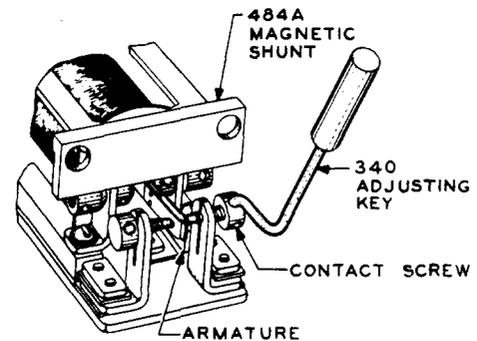

Fig. 8 – Method of Adjusting for Total Contact Travel — 215-Type Relay
(1) This method of adjustment makes use of a magnetic shunt which is placed on the relay during contact screw adjustment so as to free the armature from the influence of the permanent magnetic field.
(2) The procedures covered herein are, in general, for use in readjusting the contact screws after these screws have been backed off either to permit cleaning and burnishing the contacts or for any other reason. These procedures may also be applied in cases where a check of the total contact travel indicates that the contact travel requirement is not satisfactorily met. In all other cases when necessary, readjust the relay as covered in (7) through (15).
(3) Insert the relay in the connecting block of the testing equipment and place the 484A magnetic shunt across the front end of the yoke directly above the pole-piece screws as shown in Fig. 8 and 9. This should result in freeing the armature from magnetic influence sufficiently to cause it to assume a position approximately midway between the pole-piece screws provided the contact screws do not interfere. Connect battery to the contacts by means of the testing equipment. If the armature rests against either contact under this condition, back off the contact screw until it clears the armature.
(4) Adjust the total contact travel on relays used in telegraph service as outlined in Method A below. Adjust the travel on all other relays as outlined in Method B.
Method B: Turn in one contact screw with the 340 adjusting key as shown in Fig. 8 until it just touches the armature as indicated by the testing equipment and then back it off one-half the specified total contact travel. One twelfth of a turn of the contact screw corresponds to 0.002-inch contact travel. Repeat the above operation with the other contact screw.
(7) With the relay inserted in the connecting block of the testing equipment, loosen the locknuts on 215-type relays and back off the pole-piece screws as far as possible with the 340 adjusting key or the 3-inch C screwdriver. Back off the pole-piece screws on 255-type relays, with the KS-6854 screwdriver. The knurled tension nut shall be set so that the pole-piece screw may be adjusted without changing the position of the knurled tension nut. The 340 adjusting key may also be used to turn the pole-piece screw. Place the 484A magnetic shunt across the front end of the yoke directly above the pole-piece screws as shown in Fig. 8 and 9.
(8) Adjust the total contact travel on relays used in telegraph service as outlined in Method A below. Adjust the travel on all other relays as outlined in Method B.
Method B: Connect battery to the contacts of the relay with the testing equipment and advance one contact screw with the 340 adjusting key as shown in Fig. 8 until the screw just touches the armature as indicated by the testing equipment. Then back off the contact screw one half the total contact travel. One twelfth of a turn of the contact screw corresponds to 0.002-inch contact travel. Repeat this operation with the other contact screw, after which remove the magnetic shunt.
(16) The procedures covered in (17) through (21) are, in general, for use in readjusting the contact screws after these screws have been backed off either to permit cleaning and burnishing contacts or for any other reason. These procedures may also be applied in cases where a check of the total contact travel indicates that the contact travel requirement is not satisfactorily met. In all other cases readjust the relay as covered in (22) through (32).
(17) Release the armature by placing the 484A magnetic shunt on the relay as shown in Fig. 8 and 9.
(18) See that both contact screws are backed off at least one turn. Remove the 0.005-inch blade from the 74D thickness gauge nest, and place it between the front ends of the flexible contact springs.
(19) Using the 340 adjusting key, adjust one contact screw until it just touches the armature contact. This can be judged by inserting the white P-484674 card underneath the contacts, with the short sides of the card against the contact screw bracket, and viewing the contact gap from above the relay. If there is still doubt as to whether or not the